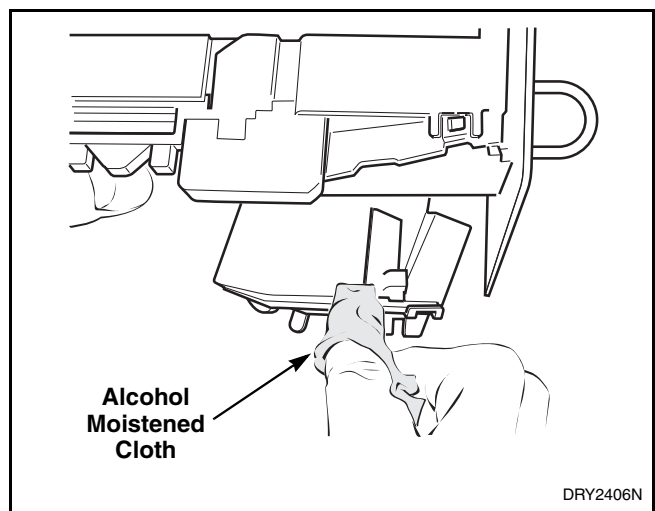

Figure 31
- e. Clean residue from coin rail with an alcohol moistened cloth. Refer to *Figure 31*.